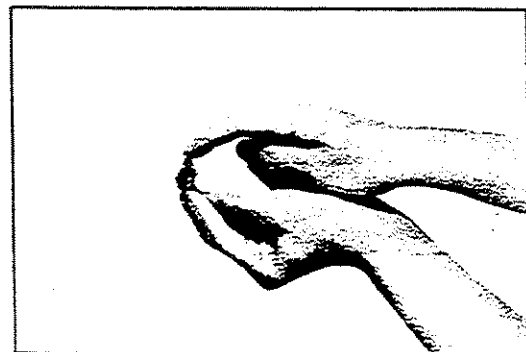

Fig. 4-1-30
- 2) Wash clean the delivery valve assembly and depress the valve lightly with finger with the opening in the valve seat plugged as illustrated in Fig. 4-1-30. The delivery valve assembly is normal if the valve snaps out when finger is released. If the valve does not snap out when finger is released quickly, replace the valve assembly as this condition indicates piston wear.